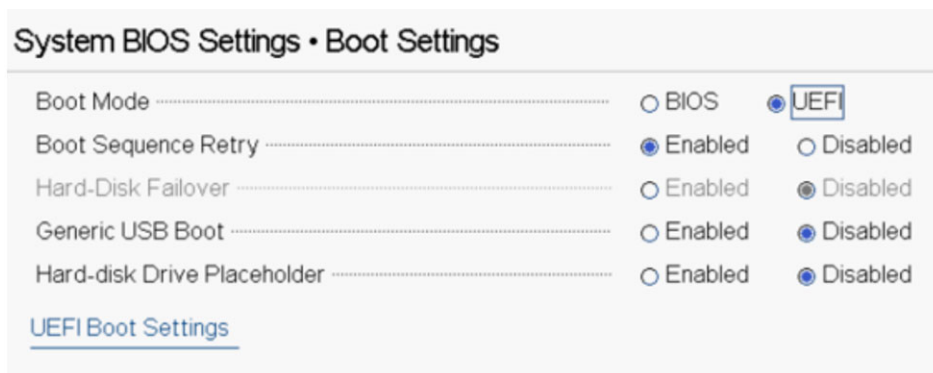

Figure 6-21. Integrated NIC: System BIOS, Boot Settings for VMware
2. Complete the Boot Settings page as shown in Figure 6-21.